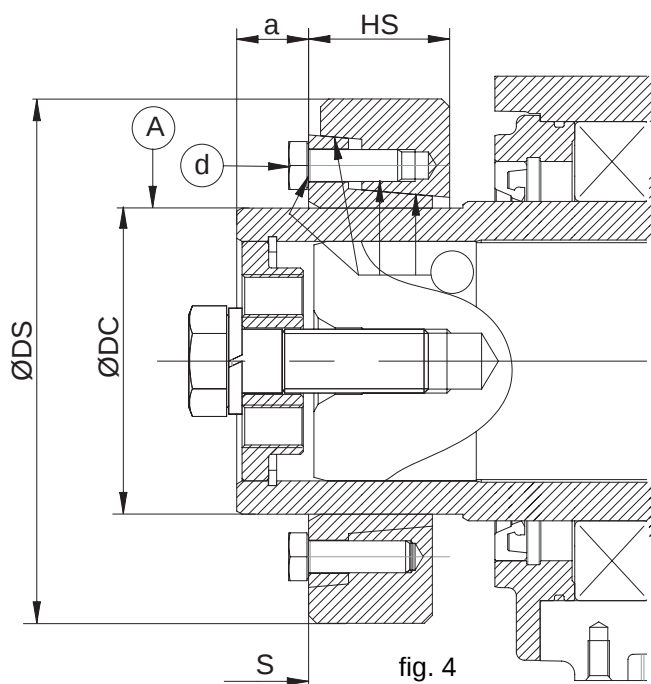

fig. 4
- Lubricate the coupling housing (Fig.4 pto. A).
- When servicing the coupling, disassemble it and grease the zones marked "C" (see fig. 4).
- Fit the coupling in its seat on the gear unit shaft without tightening the bolts, positioning it as shown in "a" (see Fig. 4).
- When the coupling has been correctly fitted, visually inspect the assembly to make sure that the front surfaces of the inner and outer rings are on the same plane (see Fig. 4 pto. S).